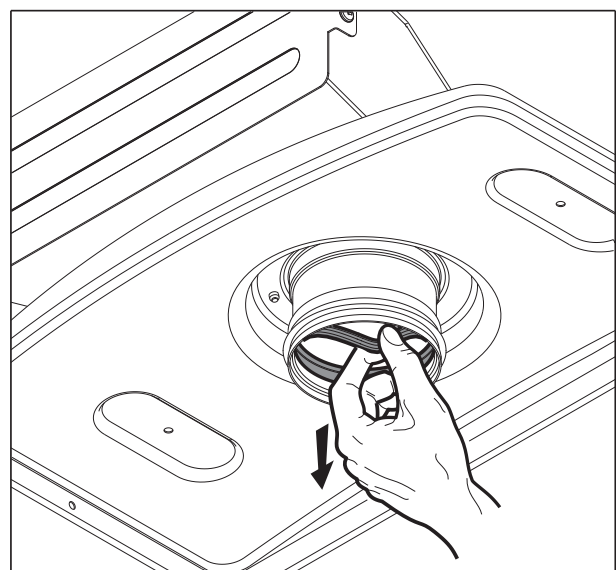

Fig. 5 Condensing appliances only
- Remove inner seal, see Fig. 5.